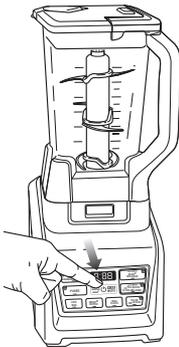

Fig. 7
- 11 Press the power button to turn on the unit. Select the speed or Auto-iQ program that best suits your needs. The Auto-iQ program will stop the appliance automatically at the end of the program. (Fig. 7)